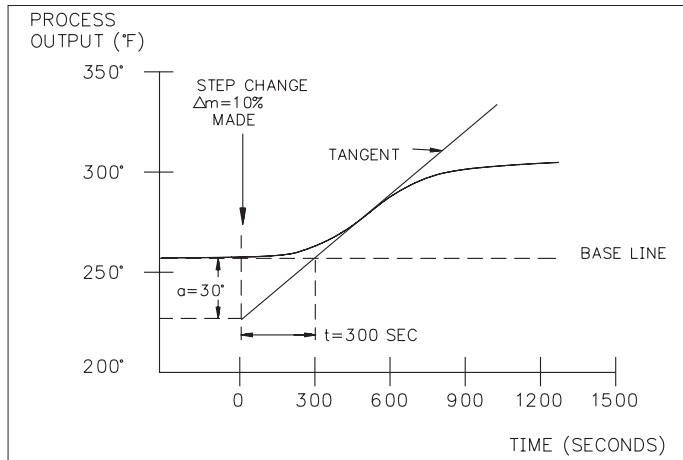

Figure 43, Process Reaction Curve
- 5) Record the response of the process. Use the information from the table to calculate the controller tuning values. The PID tuning parameters are determined graphically from Figure 43, Process Reaction Curve. Draw a vertical line at the moment the step change was made. Draw a line (labeled tangent) through the process reaction curve at its *maximum upward slope*. Extend this line to intersect the vertical line.